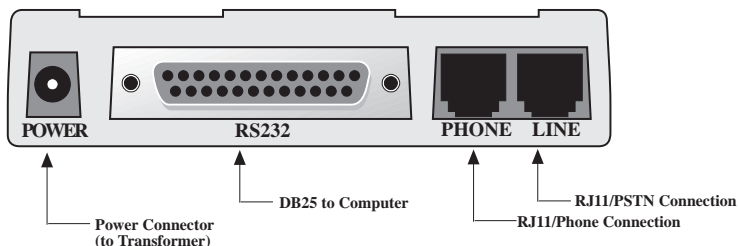

Figure 2-1. MultiModemZDX Connections
2. Attach your MultiModemZDX to your PC or terminal with an RS232 (or V.24) cable (see Figure 2-1). Be sure to tighten the mounting screws on the DB connectors.